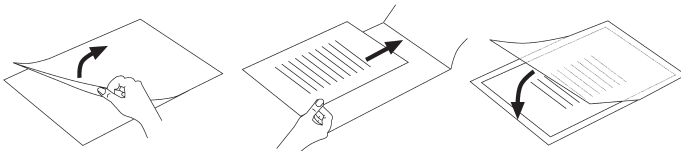

Fig. 2
- ▶ Ensure that you use only one pouch for laminating. First open it up, as shown in Fig. 2.
- ▶ Make certain that you use only one pouch for laminating. First open it up, as shown in Fig. 2 (see p. 36).